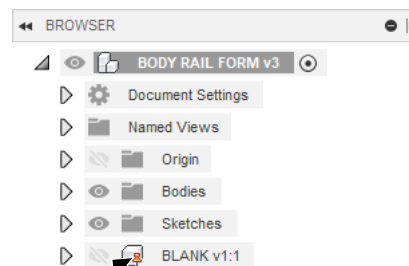
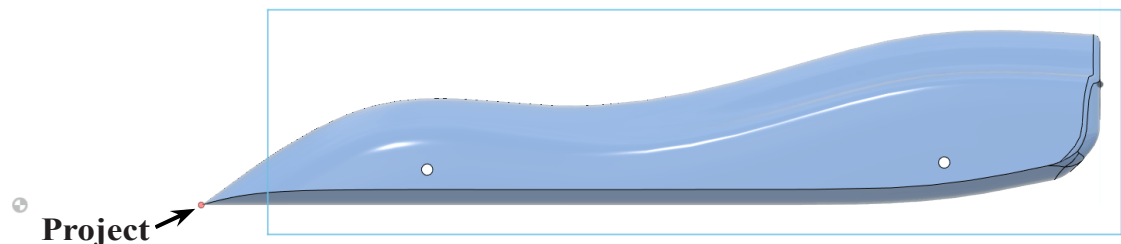

Fig. 12
Fig. 13
Step 6. **Hide**  **Blank**  in the Browser, **Fig. 12**.
Step 7. Click Create Menu > Project/Include > Project (P).
Step 8. Click the **forward most vertex on the car body (tip)** and click OK in Project panel, **Fig. 13**.